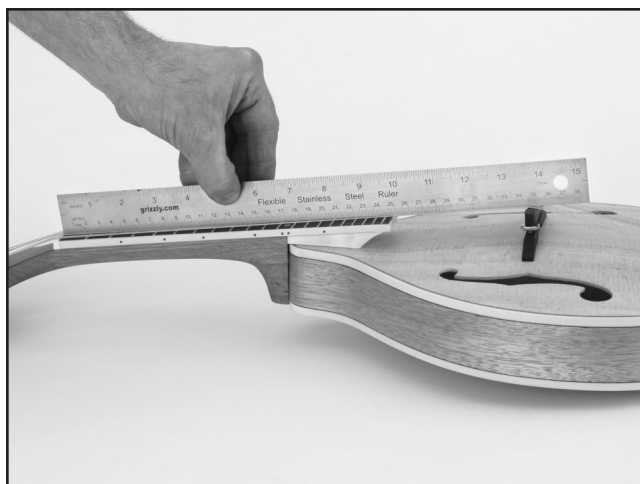

Figure 20. Bridge placement.
4. The bridge is located 350 mm (13.8") from the nut and 175 mm (6.89") if measured from the 12th fret. See **Figure 20**.